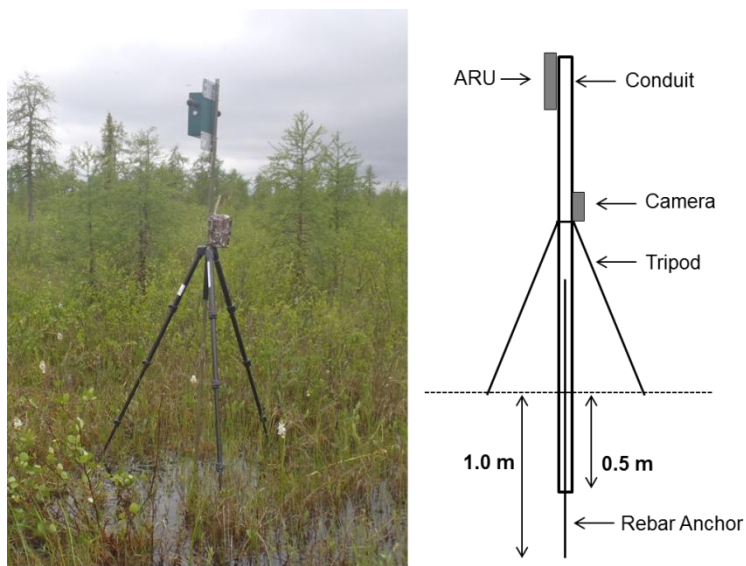

Figure 12. Camera and ARU set up in a wet area using a tripod
Units deployed at wet sites (i.e. bogs and fens) where there are no suitable trees for unit attachment will need to be mounted to conduit and stabilised with a tripod (Figure 12).
- Pound the 2 m rebar into the ground using the post pounder (Figure 12)
- Pull the tripod, conduit, and rebar out of the ground (Figure 12)